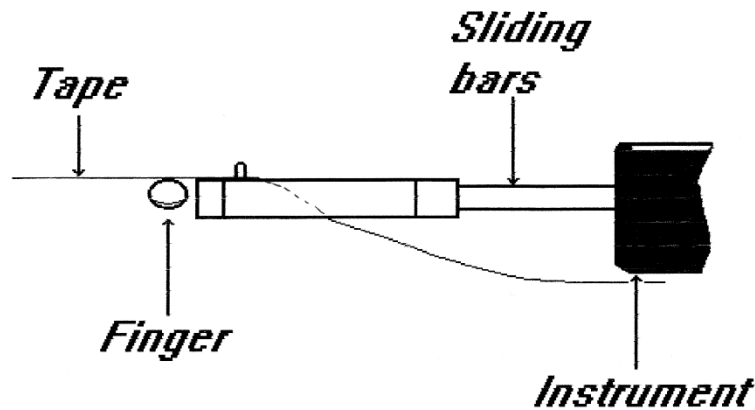

Figure 4 - Tensioning the Tape
- 5) Place a finger under the tape, as shown in Figure 4, and **gently** lift the tape so as to relieve a small amount of tension on the tape – the green light should go off. **Gently** removing the finger should cause the green light to come on again. If the green light stays off, turn the winding handle clockwise a small amount until enough tension is being applied so that the green light goes on and off again with gentle placing and removing of the finger under the tape. The tape is now at the correct tension.